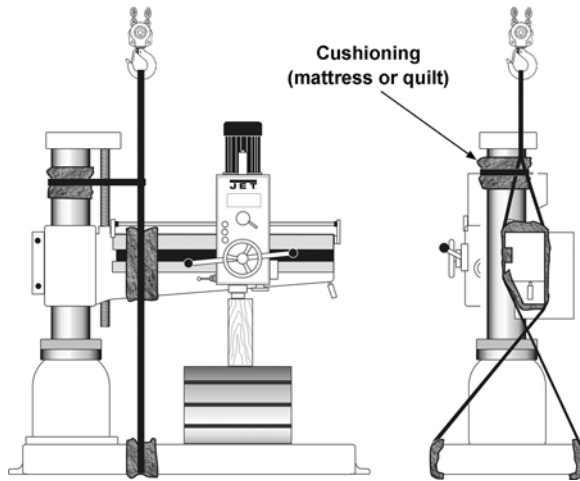

Figure 9: Method of lifting
2. Place lifting straps as shown in Figure 9. Use cushioning to protect machine surfaces.